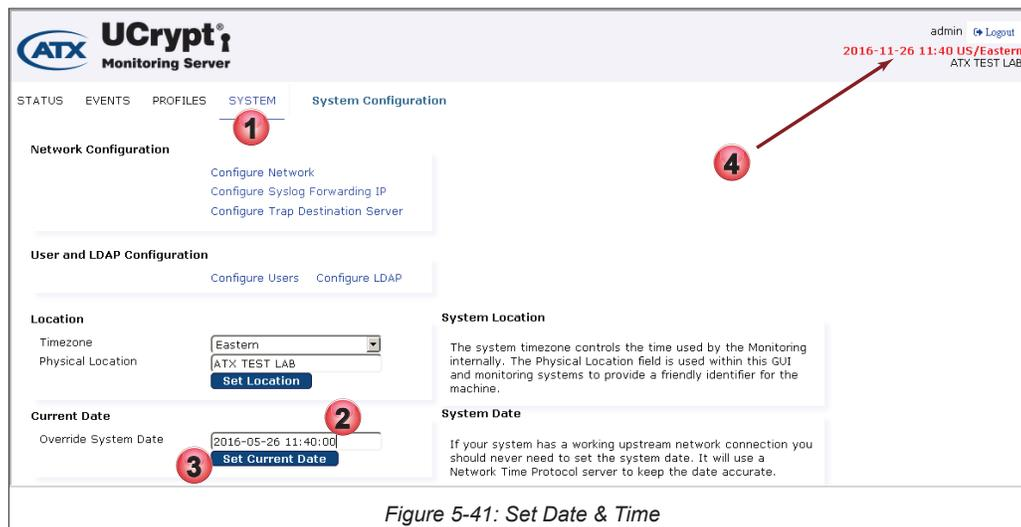

Figure 5-41: Set Date & Time
1. Click the **System** tab if isn't already selected, Figure 5-41